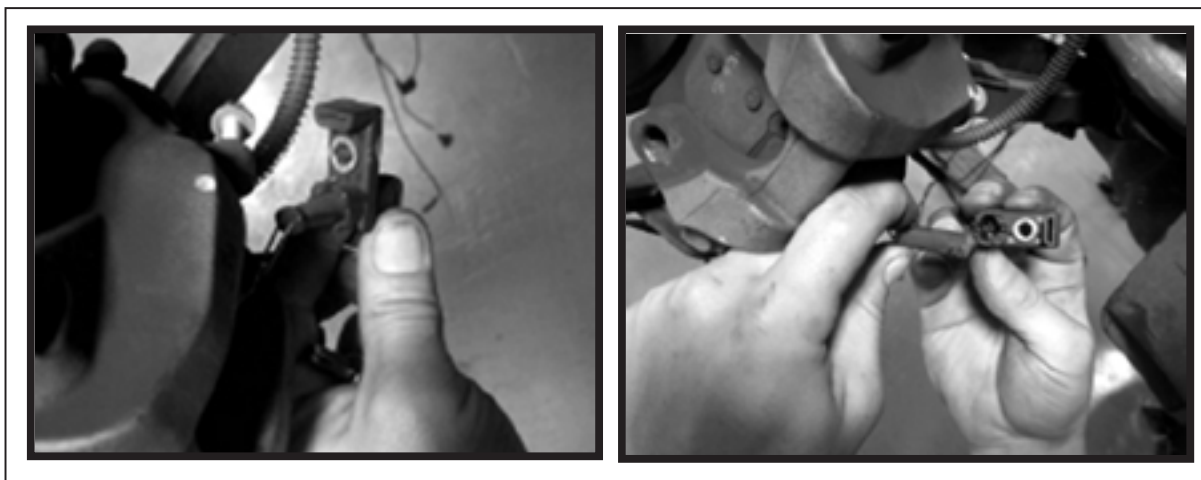

FIGURE 10-21
24.0 UNPLUG BRAKE SENSOR CABLE. (FIGURE 10-21)